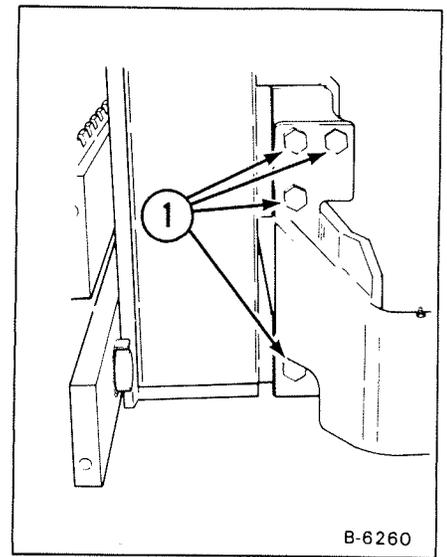

Fig. 1 – 44 Mounting Bolts
After the first 25 hours of machine operation, tighten the eight (8) mounting frame bolts (Fig. 1 – 44, Item 1) again to 300 to 330 ft.-lbs. (407 to 447 Nm) torque.